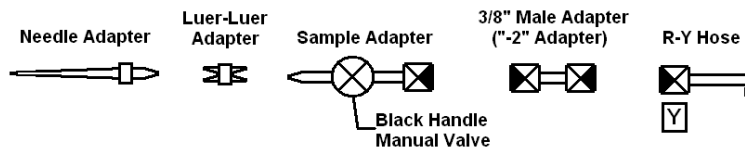

Figure 5-6.- CWC-I Fill Hose purge hardware.
2. Assemble Purge hardware as shown in fig 5-6
1. De-mate all connections shown in fig 5-6